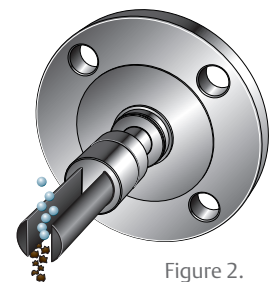

Figure 2.
- Gap between tines should be vertical in the T-piece – solids drop down, entrained gas will go up (Figure 2)